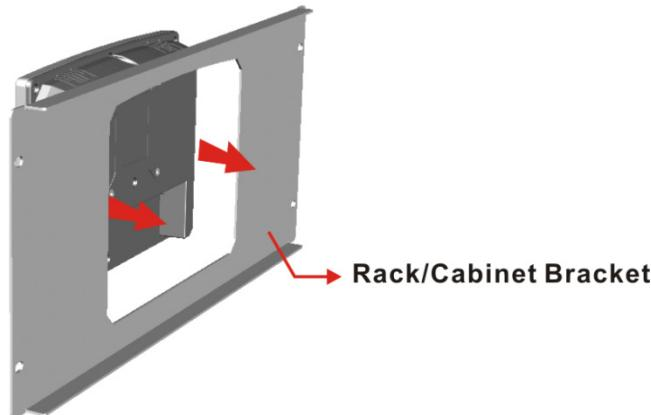

Figure 3-23: The Rack/Cabinet Bracket
**Step 1:** Slide the rear of the PPC-FxxC-Q370 panel PC through the rack/cabinet bracket until the aluminum frame is flush against the front of the bracket (**Figure 3-23**).